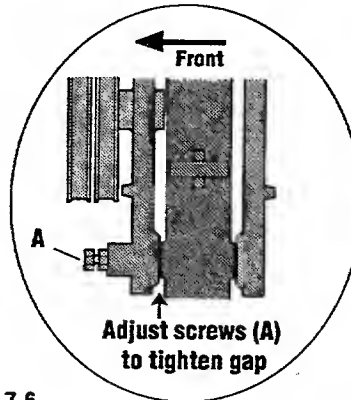

Fig. 7-6
In time, a gap may form in front axle in front of screw (A, Fig. 7-6). An adjustment is provided. This adjustment can reduce play in axle.
2. Adjust screws (A, Fig. 7-6). These screws apply pressure to front axle. Axle should pivot with a small amount of drag.
Straighten front wheels. Loosen locknuts (B, Fig. 7-6). Adjust tie rod (C) so measurement (M) is 1/8" longer than measurement (N).